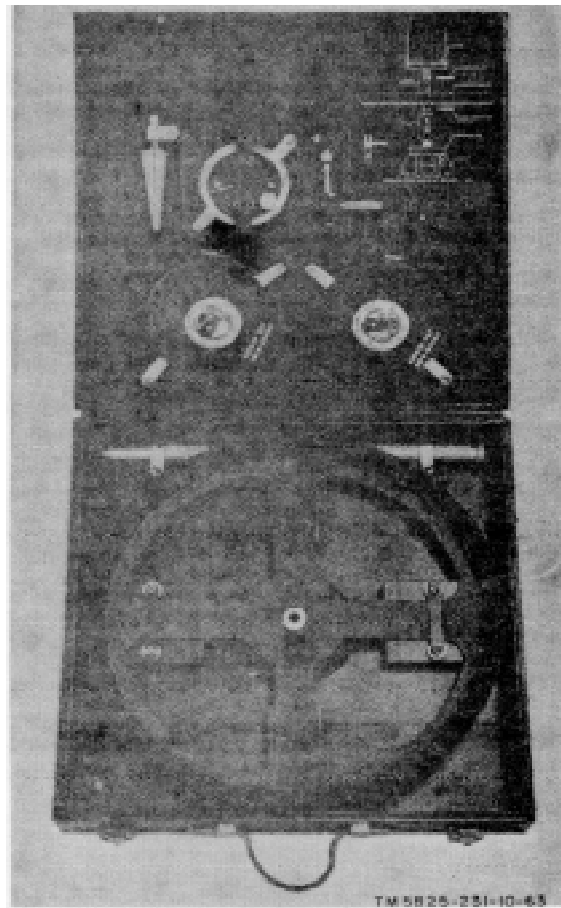
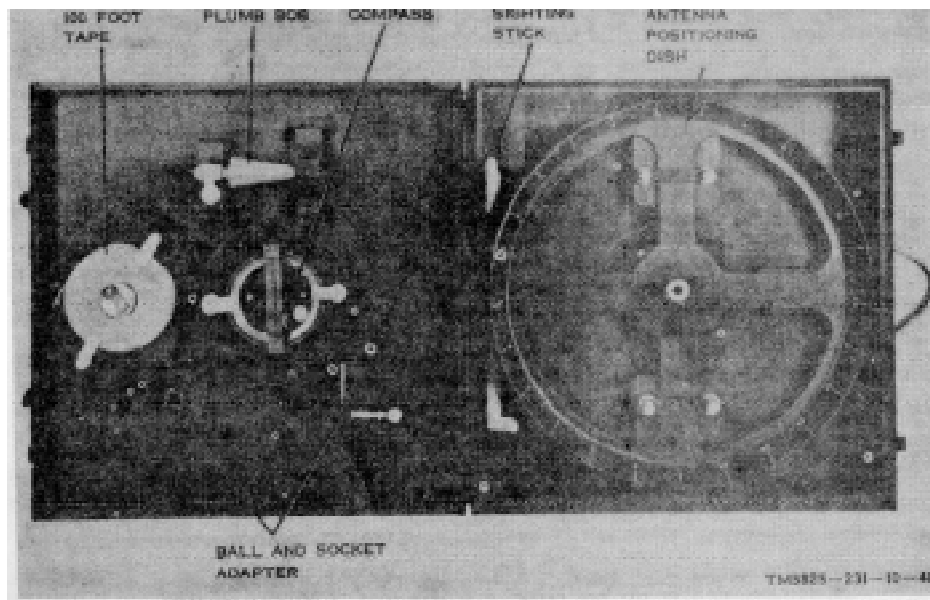
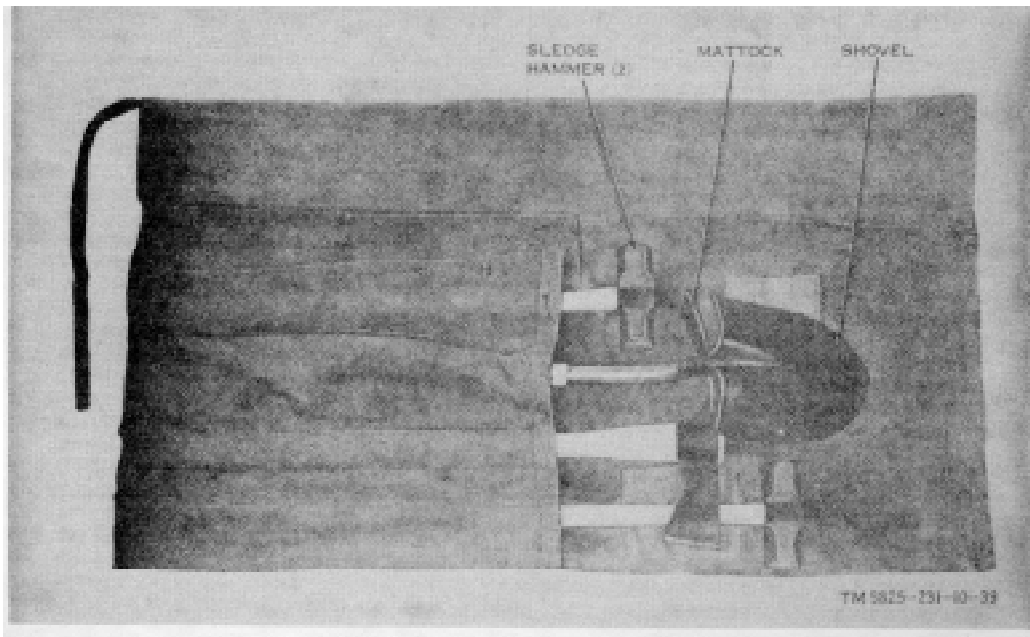

Figure 1-21. *Kit, Antenna Positioning MK-985A/G.*
Figure 1-22. *Kit, Antenna Positioning MK-985-G.*
Figure 1-24. Pioneer kit.
a. *Kit, Antenna Positioning MK-985(\*)/G* (fig. 1-21, 1-22, and 1-23).
(1) An antenna positioning kit, required for installation of the antenna system at the selected site, is supplied with the AN/TRD-23(\*).
(2) The antenna positioning kit supplied with the AN/TRD-23A is illustrated in figure 1-21, and the antenna positioning kit supplied with the AN/TRD-23 is illustrated in figures 1-22 and 1-23.
(3) The MK-985A/G, supplied with the TRD-23A, has two 150-foot steel tapes in a modified case.
(4) The following components are included in the antenna positioning kit:
b. *Pioneer Kit*. A toolkit containing two sledge hammers, a shovel, and a mattock is supplied in a canvas carrying bag (fig. 1-24).